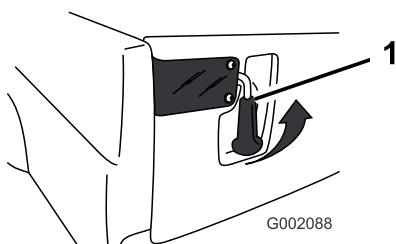

Figure 20
1. To open the tailgate latches, push outward and lift the latch handles up (Figure 20). The latches will spring out toward the center of the tailgate. Slowly lower the tailgate.